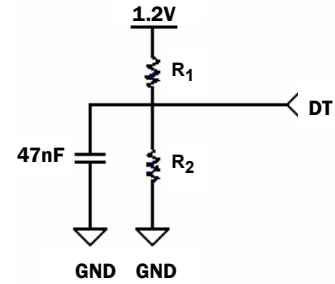
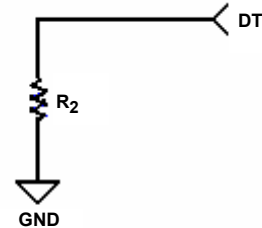

FIGURE 33A.
FIGURE 33B.
The QLx4600-SL30 is capable of maintaining periods of line silence on any of its four channels by monitoring each channel for loss of signal (LOS) conditions and subsequently muting the outputs of a respective channel when such a condition is detected. A reference current applied to the detection threshold (DT) pin is used to set the LOS threshold of the internal signal detection circuitry. Current control on the DT pin is done via one or two external resistors. Nominally, both a pull-up and pull-down resistor are tied to the DT pin (Figure 33A), but if adequate control of the supply voltage is maintained to within $\pm 3\%$ of 1.2V, then a simple pull-down resistor is adequate (as in Figure 33B). Resistors used should be at least $1/16W$, with $\pm 1\%$ precision.
The internal bias point of the DT pin, nominally 1.05V, is used in conjunction with the voltage divider (R_1 and R_2) shown in Figure 33A to set the reference current on the DT pin.
For channels exhibiting more than 25dB of total loss (this includes cable or FR-4 loss) the DT pin should be configured for a reference sink current (coming out of the DT pin) of approximately $2\mu A$. A typical configuration for a $2\mu A$ sink current is given in Figure 33C. If the configuration in Figure 33B is utilized, a $525k\Omega$ resistor would be used.